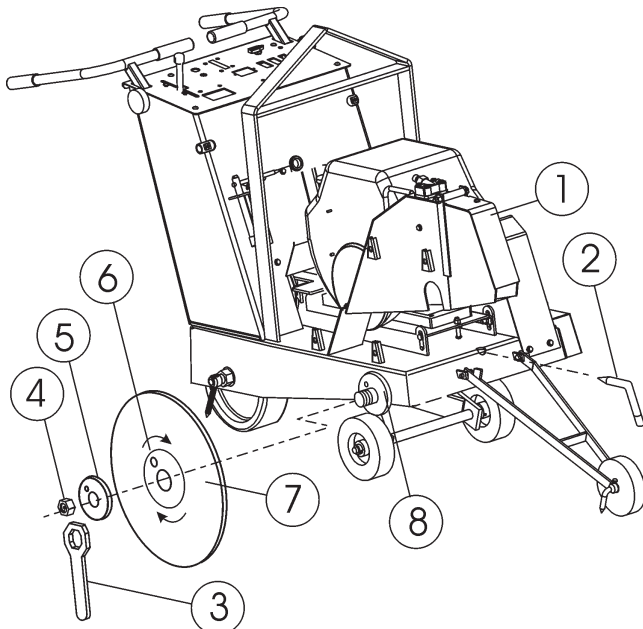

Figure 13. Diamond Blade Placement
- Reference Figure 13 (Diamond Blade Placement) when removing or installing the diamond blade.
1. **Belt Guard** – Unscrew the guard security knob and water hose quick disconnect fitting and remove blade guard (1) from its bayonet fitting and set it beside the saw.
2. **Shaft Lock Tool** – Remove the **shaft lock tool** (2) from the tool holder and insert the pointed end through the front of the saw frame into the machined hole in the blade shaft. A conveniently placed opening on the front of the saw frame permits the use of the shaft lock tool. This tool inhibits the shaft from rotating when applying torque to the blade nut.
3. **Blade Nut Wrench** – Remove the blade nut wrench (3) from the tool holder and unscrew the blade shaft nut (right-side). This nut **loosens clockwise** and **tightens counterclockwise**.
4. **Blade Nut** – Remove the blade nut (4). For reassembly, DO NOT over tighten the blade nut against the outer flange. Tighten blade nut approximately 45-50 ft-lbs/62-69 N/m.
5. **Outside Blade Flange (Collar)** – Ensure that the flange face is clean and free of debris and is placed flush against the diamond blade (7). Check that the drive pin goes through the blade pin hole (6) and seats properly into the inner flange (8).